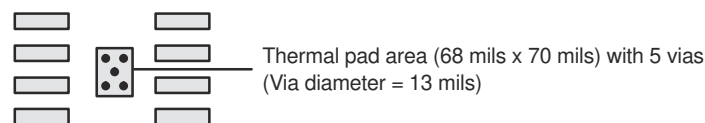

Figure 7-10. PowerPAD™ Integrated Circuit Package PCB Etch and Via Pattern
1. Prepare the PCB with a top-side etch pattern as shown in Figure 7-10. There must be etch for the leads as well as etch for the thermal pad.